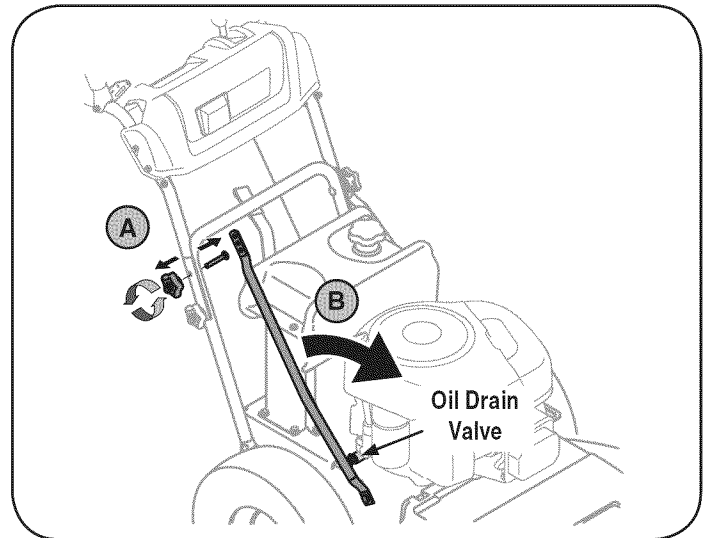

Figure 13
- a. Remove the upper star knob and carriage screw on the right side of the handle, Figure 13.
- b. Pivot the brace tube towards the front of the mower to allow room to connect the oil drain hose to the oil drain valve, Figure 13.